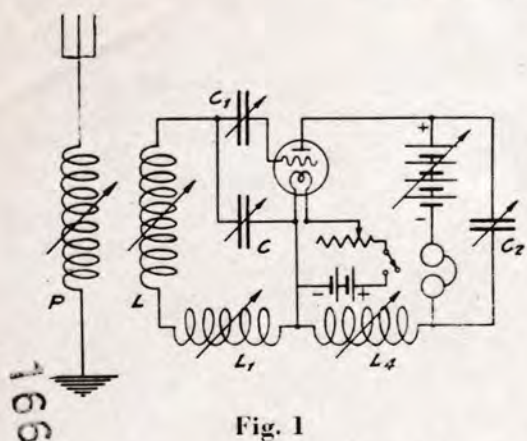
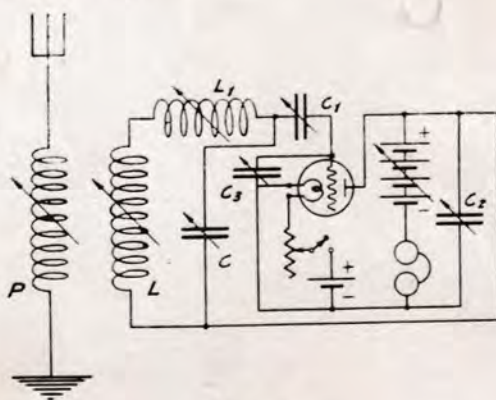

Fig. 1
Fig. 2
**Circuits.** The diagrams above are two of the celebrated Armstrong circuits. Fig. 2 is the circuit used by the experimenter who established a new world's long distance receiving record of 10,300 miles with a **Single Oscilaudion**. Both Fig. 1 and Fig. 2 are suitable for receiving damped or undamped waves, and for radio frequency amplification or oscillation. Experiments indicate that Fig. 1 is the more sensitive, but the equipment of Fig. 2 is less expensive for the longer wave lengths. Notice that similar notation is used in both circuits. Both circuits may have the same corresponding values of inductance and capacity for the same wave length. In the circuit of Fig. 1 the inductance of the plate circuit [L-4] may be approximately equal to the total inductance of the grid circuit [L and L-1] for all wave lengths.
C may have a maximum value of .0006 M. F. C-1 is seldom used at values of capacity exceeding .0001 M. F. Sometimes a fixed condenser of .0001 M. F. capacity is used for C-1. C-2 may have a maximum value of capacity of .001 M. F. to .00125 M. F. The C-3 variable condenser of Fig. 2 is sometimes omitted, but when it is included it is never used at values of capacity exceeding .0005 M. F. For 200 meter wave lengths the total inductance of the grid circuit may be approximately 300 micro-henrys, for 600 meters 1,000 micro-henrys, and for 10,000 meters the grid circuit may have a total inductance of approximately 60,000 micro-henrys. The amount of loading inductance required for the antenna circuit is dependent on the capacity and inductance of the particular antenna. All oscillating and amplifying circuits will work with an exceedingly small co-efficient of coupling between the antenna and grid circuits, good results being obtained with a co-efficient of .05. All oscillating and amplifying circuits work best when the receivers have a total resistance of 2,000 ohms or more. All inductances should be tested for open circuits, and all condensers tested for short circuits. A single poor connection or short circuit will destroy the efficiency of the entire set.